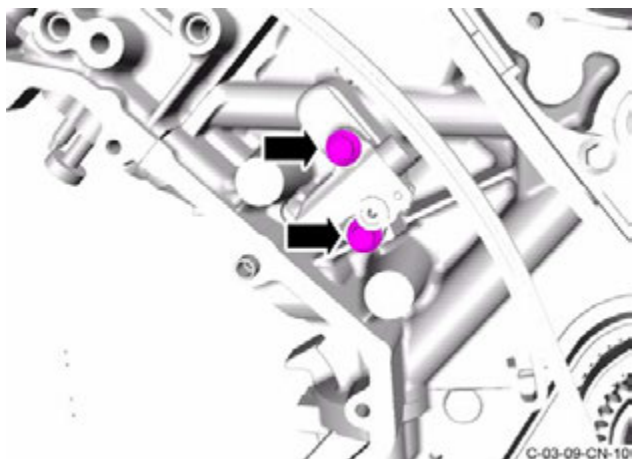

Figure 17
4. Install and torque the two bolts that attach the timing chain tensioner to the engine to 11 Nm (refer to Figure 17).